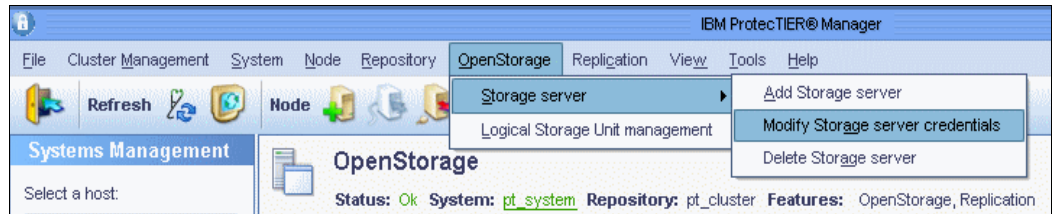

Figure 9-7 Modify Storage server credential menu
- From the OpenStorage menu, select **Storage server** → **Modify Storage server credentials**. The STS modify credentials window opens (Figure 9-7).